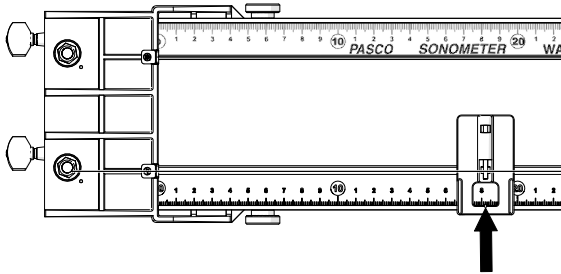

Figure 4. Use the indicator on the bridge to determine string length.
3. Read the measurement on the indicator mark on the bridge to determine the string length (Figure 4).